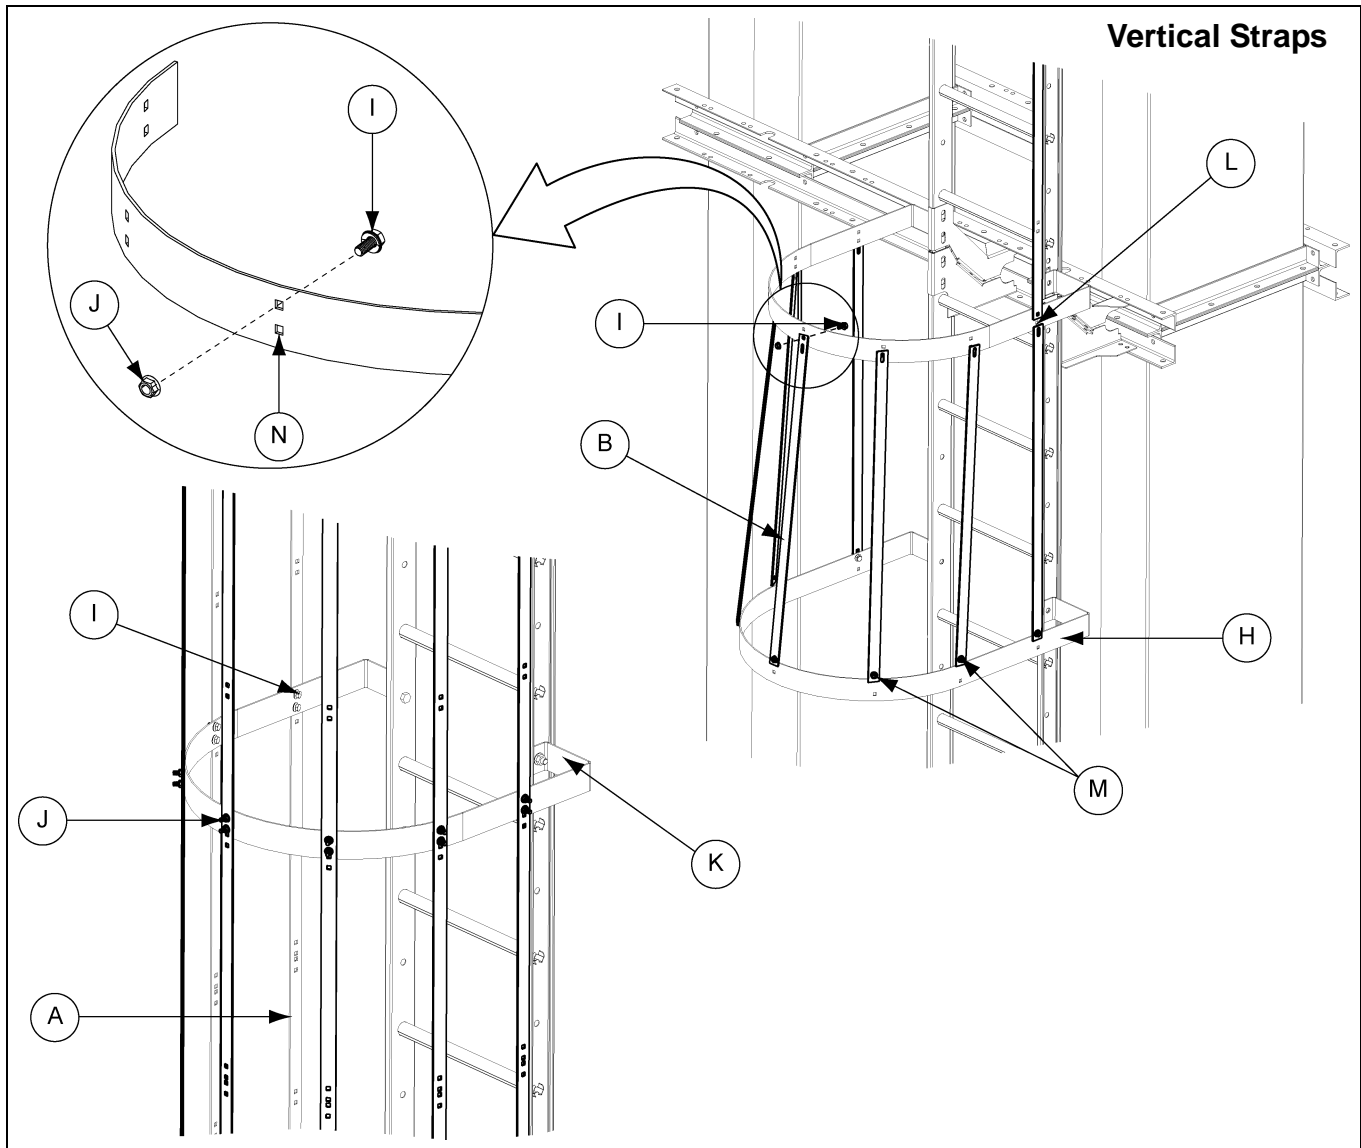

Figure 6Q
3. Install the seven (7) 10' safety cage straps (A) along the safety cage hoops using 5/16" x 3/4" bolts (S-7645) (I) and nuts (S-3611) (J). **NOTE:** Bolt heads should be to the inside of the hoop. (See Figure 6Q.)